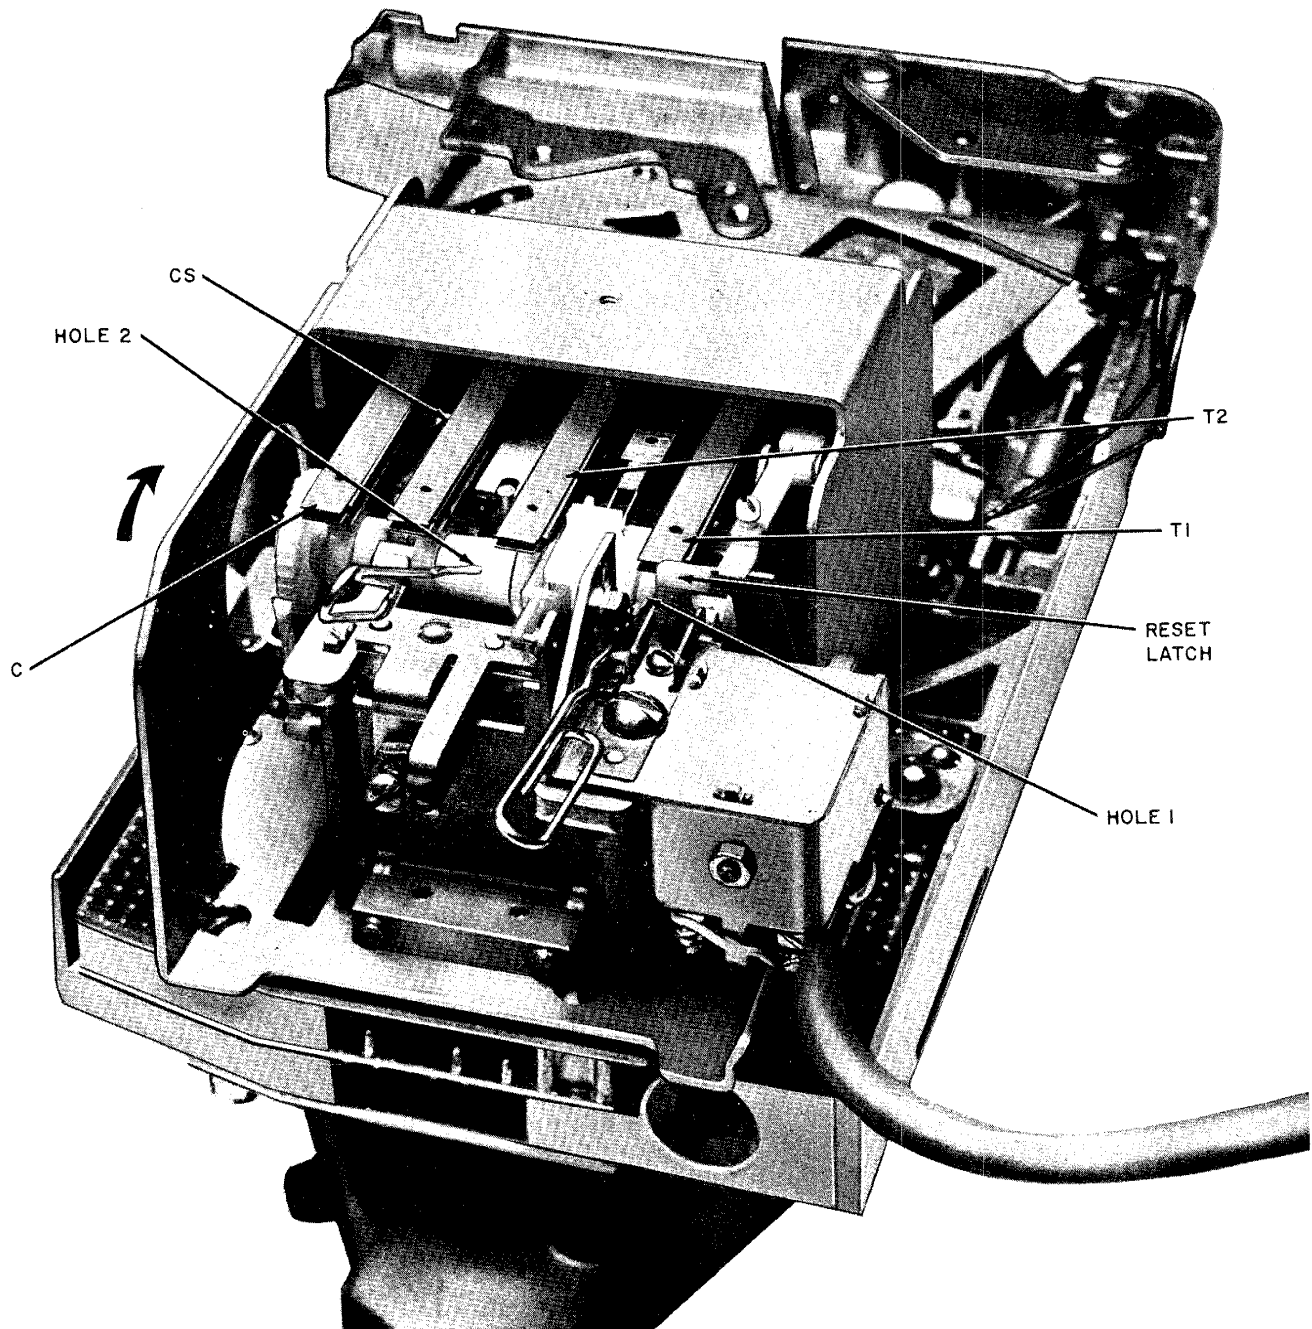

Fig. 10—Setting Totalizer Rate
Use extreme care when resetting totalizer. Avoid damaging pawl and spring pile-ups. Do not attempt to turn totalizer cam shaft in direction opposite that shown in Fig. 10.
- (2) Rotate totalizer shaft in proper direction (from bottom to top) until springs T2 (Fig. 10) rest in depression in shaft as indicated by movement of springs.
- (3) Depress reset latch (Fig. 10) toward bottom of totalizer.
- (4) Rotate shaft in proper direction until contacts T1 operate as indicated by an upward movement of the reset latch.
- (5) Do not allow shaft to move. Insert one KS-16750, List 2 releaser or paper clip into hole 1 (Fig. 10) located near right-hand end of shaft. Take care not to disturb contact springs.
- (6) Hold the paper clip firmly so that right-hand end of shaft cannot move.
- (7) Insert the second releaser or paper clip into one of four holes indicated as hole 2 in center of shaft (Fig. 10). Do not allow end of releaser or clip to extend too far beyond shaft; this may damage insulation of coil located directly beneath shaft.
- (8) Rotate second releaser or clip in proper direction until springs T2 come to rest in depression in shaft. This is zero rate position. Do not remove releasers or clips from holes in shaft.
- (9) Set desired charge rate by further rotating shaft in proper direction according to Table B.
- (10) Remove releasers or paper clips.